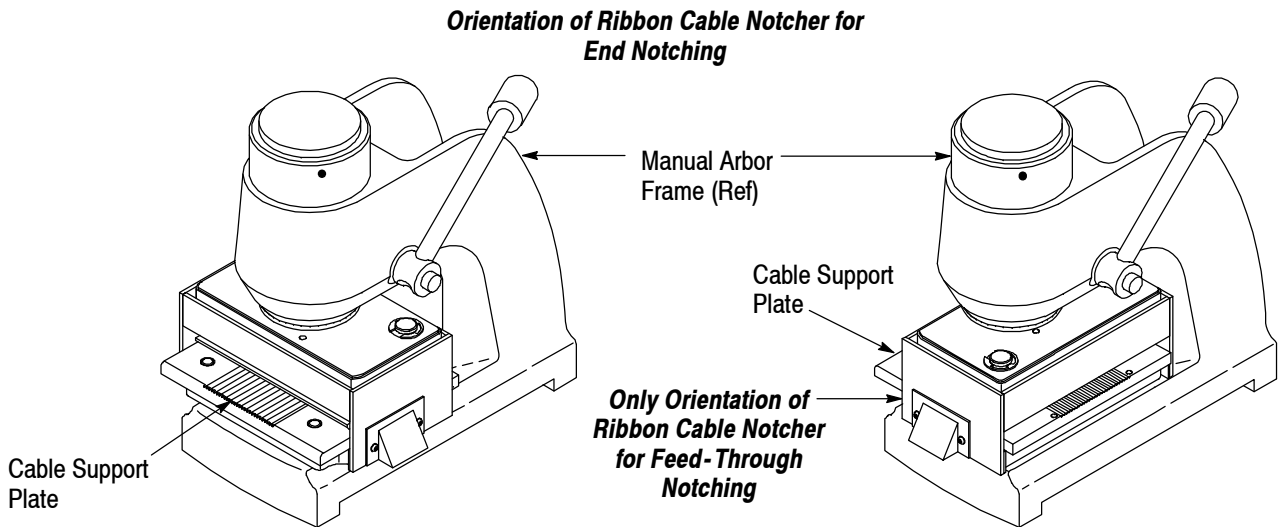

Figure 3
3. Place the notcher on the base of the frame, oriented according to type of notching. Refer to Figure 3. Install the four socket head cap screws onto the notcher from the underside of the frame.
*Make sure that the notcher is oriented in the power unit as shown in Figure 3.*